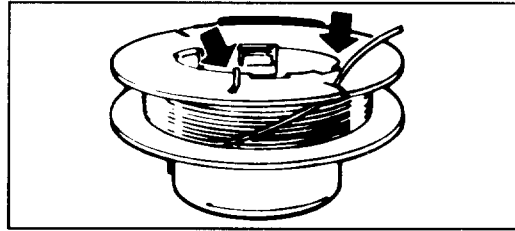

Figure 10
- C. Keep line tight on spool by securing in remaining spool notch (Fig. 10).